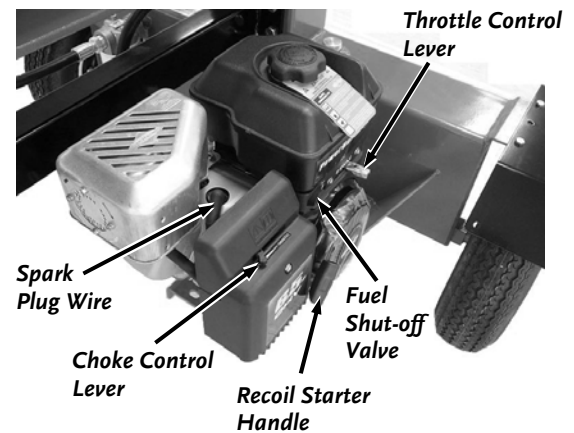

Figure 30
2. Make sure the fuel shut-off valve is in the “ON” position (**Figure 30**).